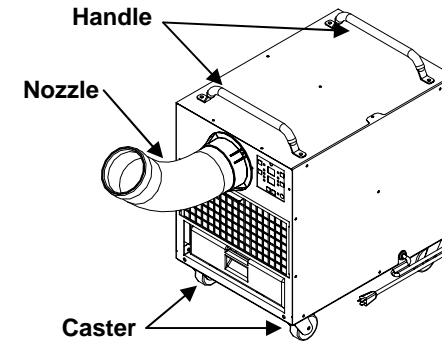

Figure 1
- Wheel Kit (Figure 1)
- Handle Kit (Figure 1 & 2)
- Six-Inch Nozzle Kit (Figure 1)
Portable Package (See Figure 1):
- Attach the Portable Accessories (casters/feet) to the base panel of the CoolCube 10 unit. See Figure 1 & 2
- Attach the Handles to the top panel of the CoolCube 10 unit. See Figure 1 & 2 (Optional)
- Attach the Cold Air Distribution Accessory (duct/diffuser/flange) to the front panel. See Figure 1 & 2